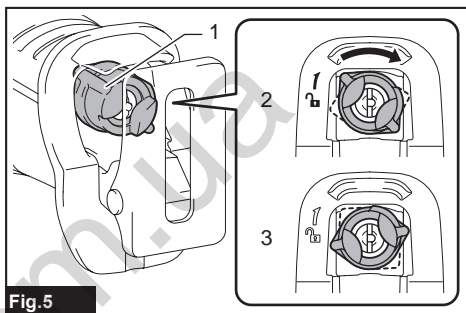

Fig.5
- **Fig.5:** 1. Blade clamp lever 2. Released position 3. Fixed position